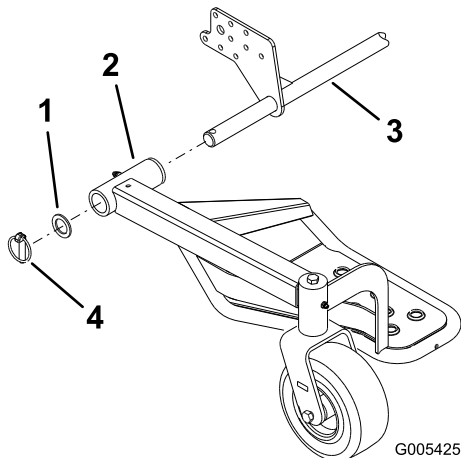

Figure 11
1. Slide the mounting tube on each sulky assembly over the ends of the axle with the foot rests towards the inside (Figure 11).
2. Secure the sulky assemblies using a washer (1-3/4 inch) and lynch pin on each side (Figure 11).